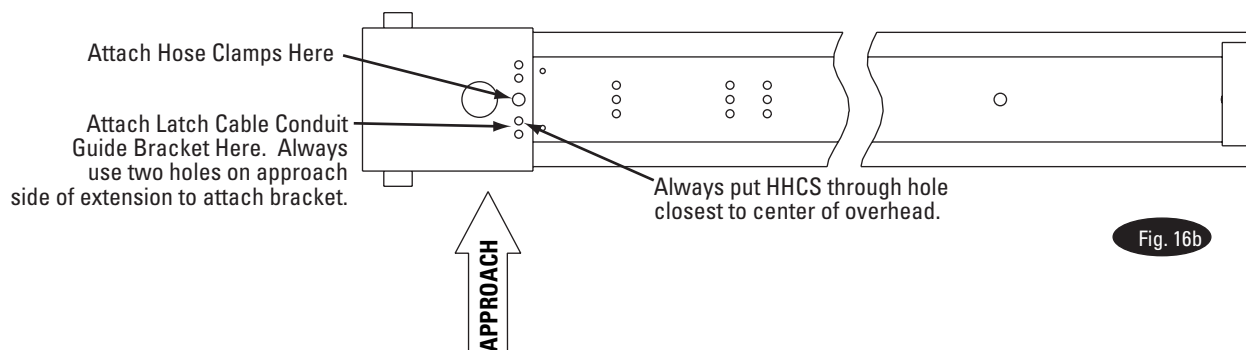

Fig. 16b
NOTE: Route Power Unit hose inside columns using slots provided at column base, Fig. 14. Route Overhead Hose in column channel on outside of column, Fig. 14. Overhead hose goes over top end of overhead assembly, Fig. 12 & Fig. 16a & Fig. 16b.
- D) Attach latch cable conduit guide brackets to overhead as shown, Fig. 16a & Fig. 16b. Always use the holes on the approach side of the lift. HHCS should be in hole nearest the center of the overhead, Fig. 16b.